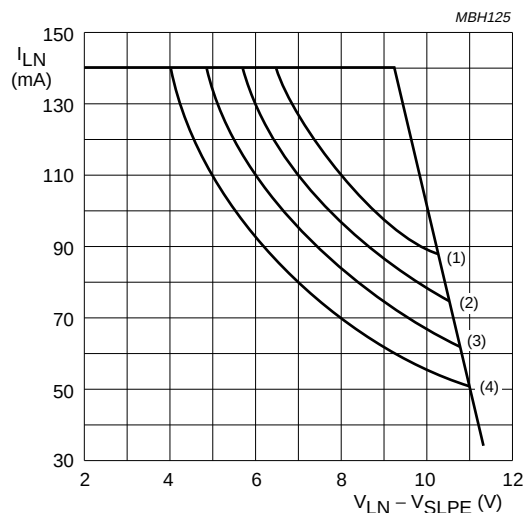

Fig.6 Safe operating area.
1. Mostly dependent on the maximum required T_{amb} and on the voltage between LN and SLPE (see Fig.6).